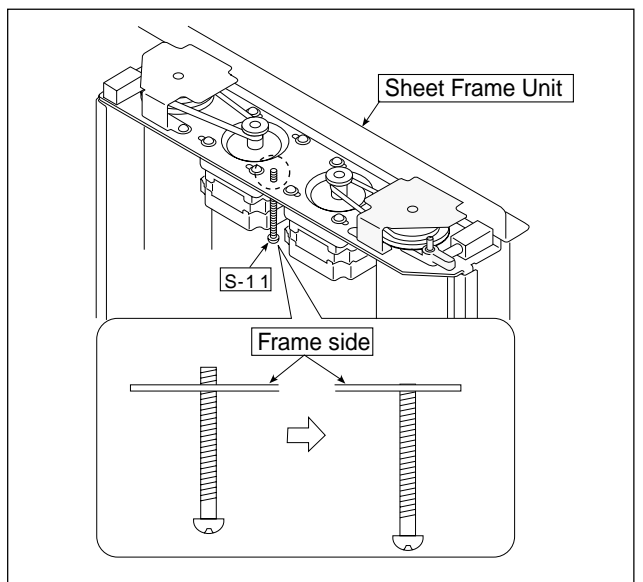

Fig. 11
2. As shown in Figure 11, loosen the "S-11" screw to the frame surface and remove the Sheet Frame Unit.
- * The operation in Figures 11 to 14 is performed with the Sheet Frame Unit put upside down.